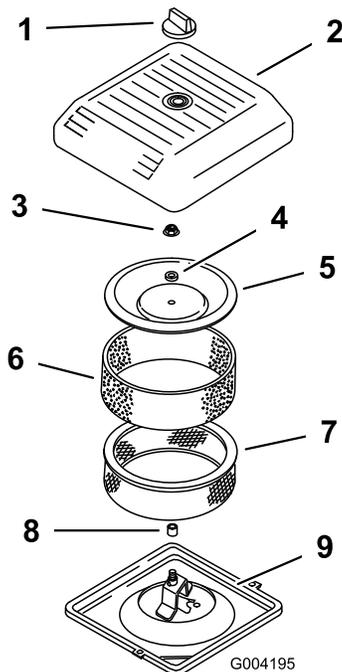

Figure 14
2. Unscrew the knob and remove the air cleaner cover (Figure 14).
3. Carefully slide the foam pre-filter off of the paper element (Figure 14).
4. Unscrew the cover nut and remove the cover, spacer and paper filter (Figure 14).
2. Place the air cleaner assembly onto the air cleaner base (Figure 14).
3. Install the cover, spacer and secure it with the cover nut (Figure 14). Torque the nut to 95 inch-lb (11 N-m).
4. Install the air cleaner cover and secure with the knob (Figure 14).